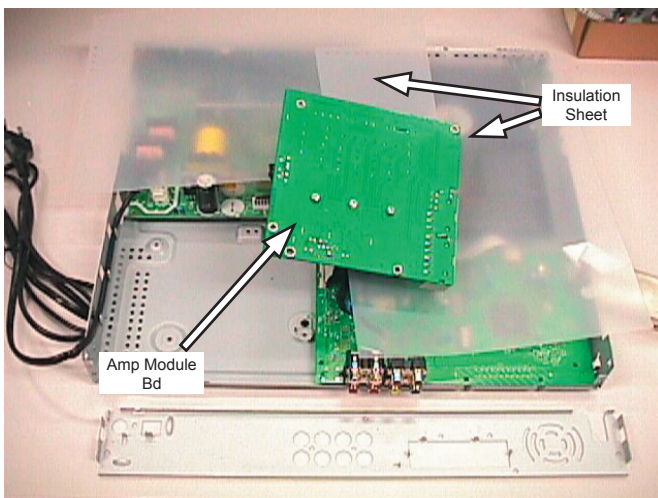

Figure 3-7
- 1) Loosen 4 screws F and 2 screws G (See Figure 3-6 & Figure 3-7) to remove Amp-Module Board